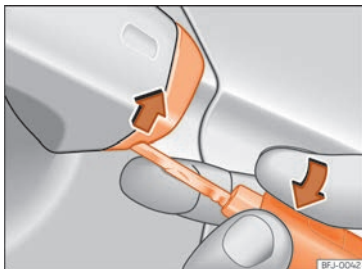

Fig. 77 Driver door handle: lever the cover off
- Insert the key shaft into the lower opening in the cover on the driver door handle »» Fig. 77 then remove the cover upwards.